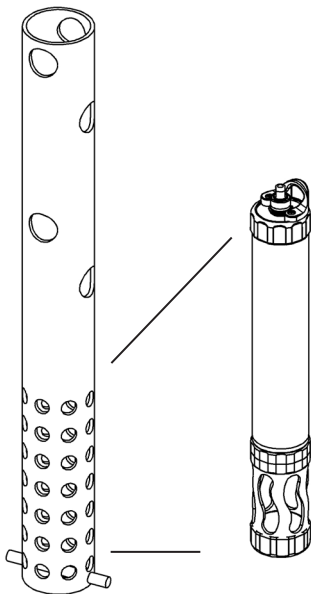

Figure 1. Vertical installation – hole placement
- Additional holes in pipe where sonde is located, refer to figure 1.